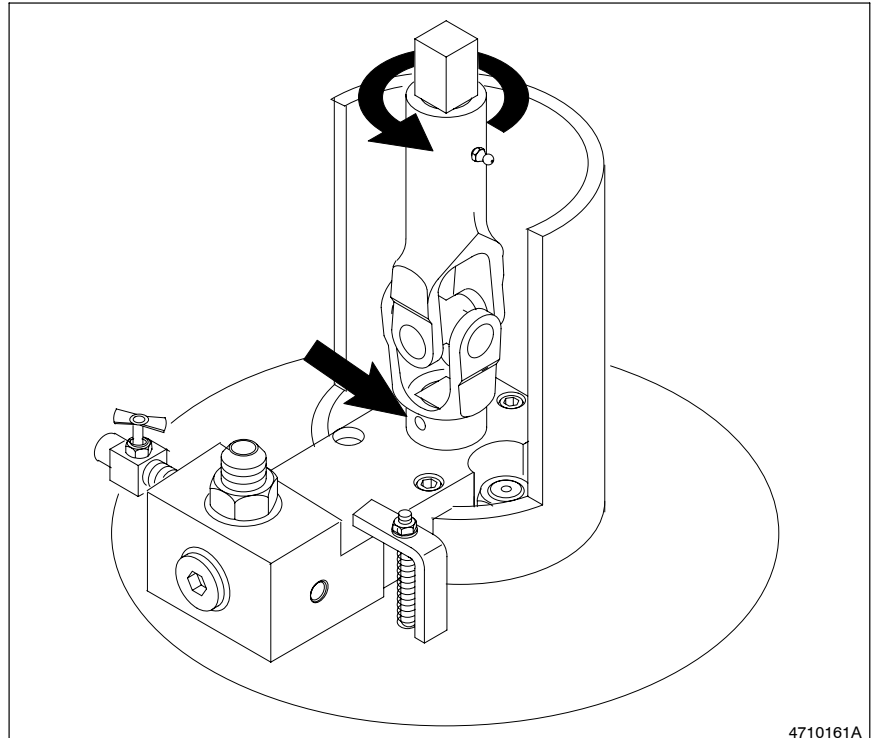

Fig. 7-15 Turning the Driveshaft to Access the Lower Yoke Assembly Set Screw
6. See Figure 7-15. Use the PUMP OFF/ON switch on the electrical enclosure front panel or the external gun trigger if one is installed to turn the driveshaft until the lower yoke assembly set screw is accessible.